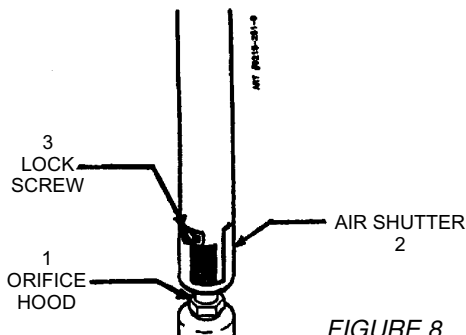

FIGURE 8
1. Yellow flame on burner - open burner air shutter to the widest opening that will not cause the flame to lift or blow off the burner when cold. (See #2 on figure 8.)
2. Distinct blue flame but lifting - close burner air shutter to the point where it will not cause the flame to lift or blow off the burner when cold. (See #2 on figure 8.)